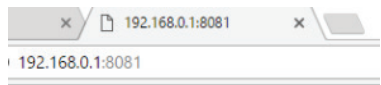

Figure 15: xPicoWiFi Web Address
4. Once connected, open a browser window and type “192.168.0.1:8081” in the address bar. Press the Enter key. See Figure 15.